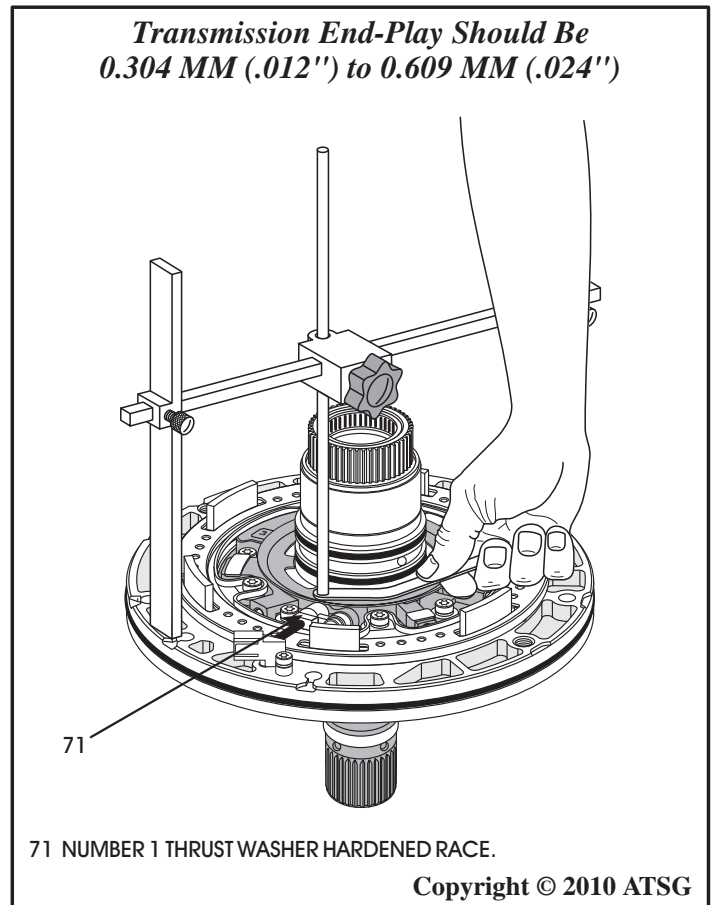

Figure 224
46. Now turn "H" gage over and set it on completed oil pump assembly, as shown in Figure 224, with adjustment rod over the number 1 thrust washer hardened race.